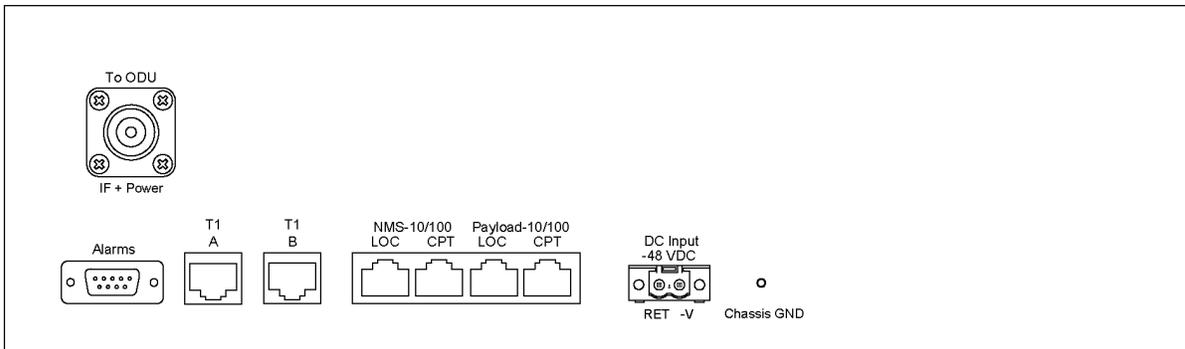

Figure 3-16. IDU Rear Panel – CarrierWave-100/Ethernet
9. Connect the IDU to the laptop computer, using the Cat-5 Ethernet crossover cable or connect the IDU to a computer network, using a normal Cat-5 Ethernet cable. Connect the Ethernet cable to **OAMP 10/100BaseTX Ch1** connector on the IDU rear panel. Refer to Figure 3-16 for the IDU rear panel connections.